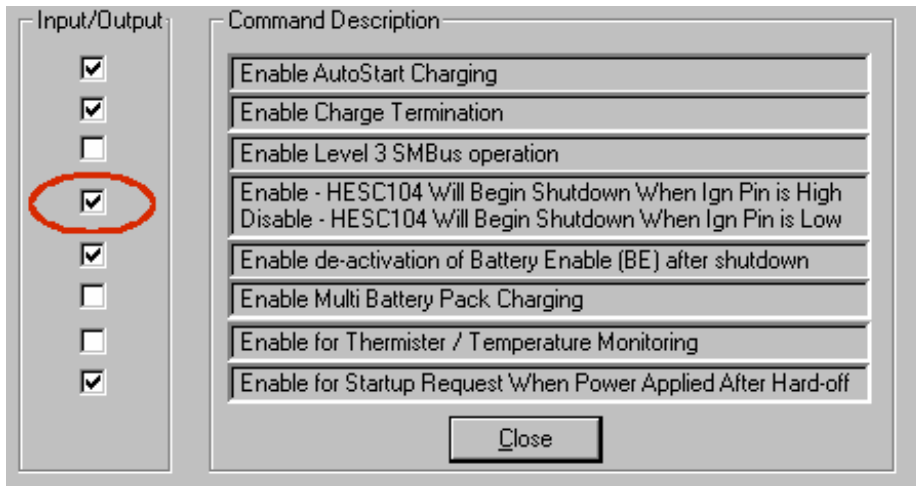

Figure 3-1
3. Figure 3-1 is a snap-shot of the SCU utility page which shows the some of charger flags. When the flag is unchecked, IGN reacts to a logic high and vice-versa with flag checked.